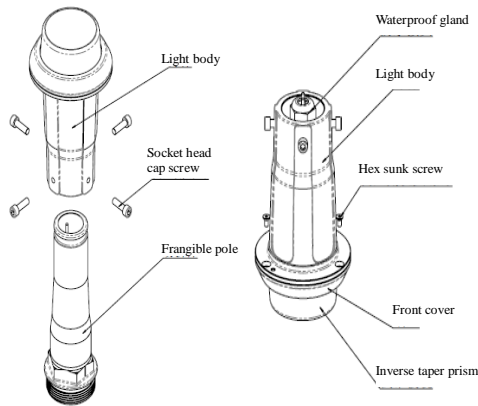

Figure 5-5
1. Unscrew hexagon socket cap screw M6 with a socket head wrench and take out the frangible pole (see Figure 5-5).